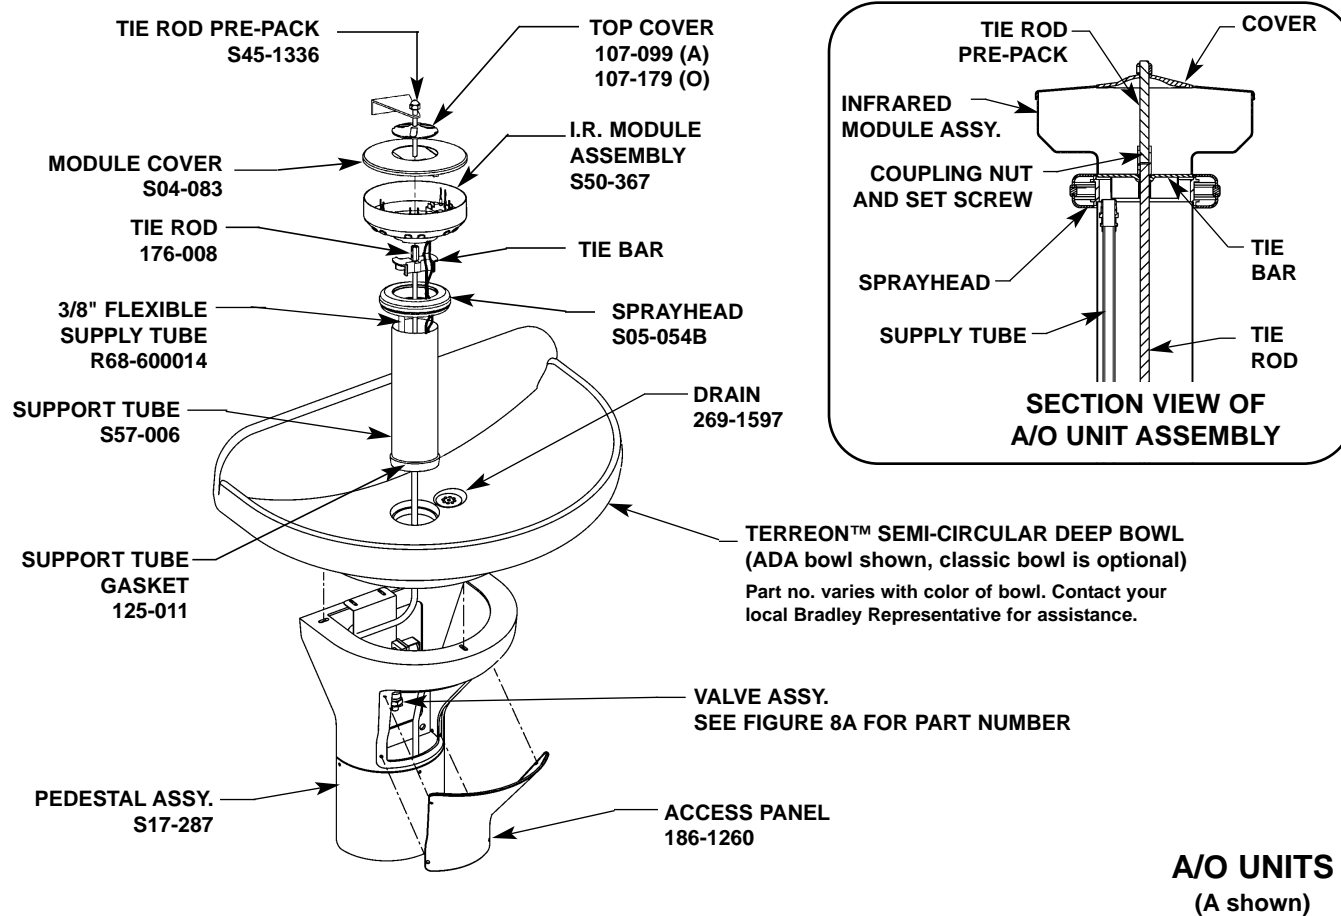

Figure 7
- A** INSTALL HEMMED END (NOT SHARP END) OF SUPPORT TUBE WITH GASKET ONTO BOWL (SEE FIGURE 7 ON PAGE 10).
- B** PLACE SPRAYHEAD WITH 3/8" TUBING ONTO SUPPORT TUBE AS SHOWN IN FIGURE 7 ON PAGE 10. RUN TUBING DOWN THROUGH SUPPORT TUBE. *MAKE SURE SPRAY HOLES POINT AWAY FROM THE WALL.*
- C** PLACE UPPER TIE BAR (NOTCHED AT CORNERS OF BOTH ENDS) ON TOP OF SPRAYHEAD PARALLEL TO WALL. CONNECT THE TWO THREADED TIE RODS TOGETHER USING THE COUPLING NUT WITH HEX HEAD SET SCREWS. RUN THE TIE ROD DOWN THROUGH UPPER TIE BAR (SEE FIGURE 7) AND SECURE FROM UNDERNEATH THE BOWL USING THE LOWER TIE BAR (NO NOTCHES) AND HEX NUT WITH SOCKET HEAD SET SCREW. A MINIMUM OF 1-1/2" OF THREADED TIE ROD SHOULD PROTRUDE BELOW THE LOWER TIE BAR; THIS WILL BE REQUIRED TO ATTACH THE VALVING.